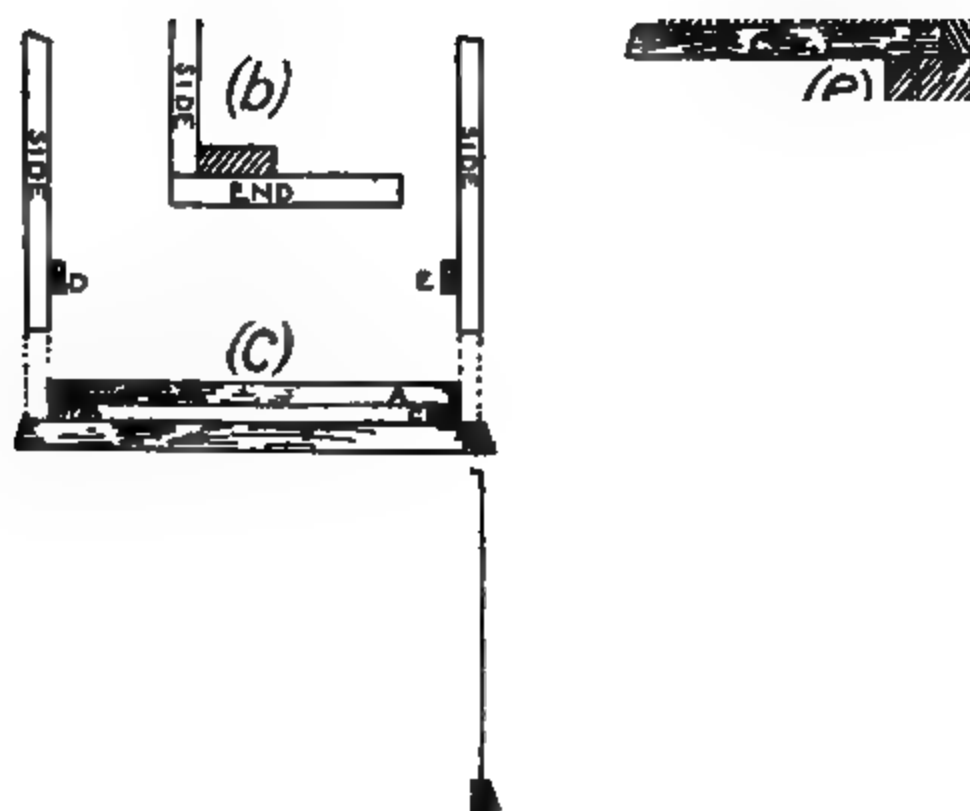

Fig. 45.—Design for sanitary dog-kennel.
Two very important points to be kept in mind when designing a dog-kennel are: (1) that the kennel shall be warm and absolutely waterproof; (2) that the construction shall permit the kennel to be easily cleaned out. The kennel shown in Fig. 45, *a*, and described below meets these conditions—the roof projecting to shed water clear of the lower woodwork, and the bottom being separate from the upper part of the structure.
The ends are made first by nailing lengths of matching across uprights of 2"  $\times$  1" batten, as shown in Fig. 45, *f*. At the top the battens are halved or tenoned into the two roof-pieces. The two outer uprights, X X, are set in about  $\frac{1}{4}$  in. from the edges to allow the sides to be flush with the outside of the ends. These four uprights are inside. It is advisable to cut out the door—using a pad-saw for the semicircular top—before nailing on Y Y, which should be a little nearer to one another than are the rough edges of the door. Two short verticals on the outside, also projecting beyond the edges, prevent the dog injuring his coat on them; while the pieces, Z Z, give a neat finish.
When the ends are finished, the horizontal boards for the sides are nailed on to X X at each end (Fig. 45, *b*). Begin at the bottom, arranging the lowest board with tongue pointing upwards, and add the upper boards in order. The direction in which the tongue points is an important detail, for, if the boards are put on the other way up, water will more easily find its way into the grooves and give trouble. (This applies to the ends as well as to the sides.)
Battens D and E (Fig. 45, *c*) are nailed inside
along the sides, and a third across the back, at a distance above the bottom edge equal to the thickness of the bottom boards and of the battens B and C, to which they are attached. Fig. 45, *c*, shows the kennel raised off the bottom; Fig. 45, *d*, the parts in contact; Fig. 45, *e*, a longitudinal vertical section of the back end. At each end a 2"×2" deal, F, is screwed to B and C to raise the bottom clear of the ground.
The roof weather boards must be long enough to project at least six inches beyond the door end, to prevent rain which falls fairly vertically driving in through the entrance. The eaves overhang three inches, and are supported, as shown in Fig. 45, *a*, by three brackets cut out of hard wood. Begin laying on the boards at the eaves and finish at the ridge, which is closed with a wooden beading or a 6-in. strip of sheet zinc, or zinc outside a beading.